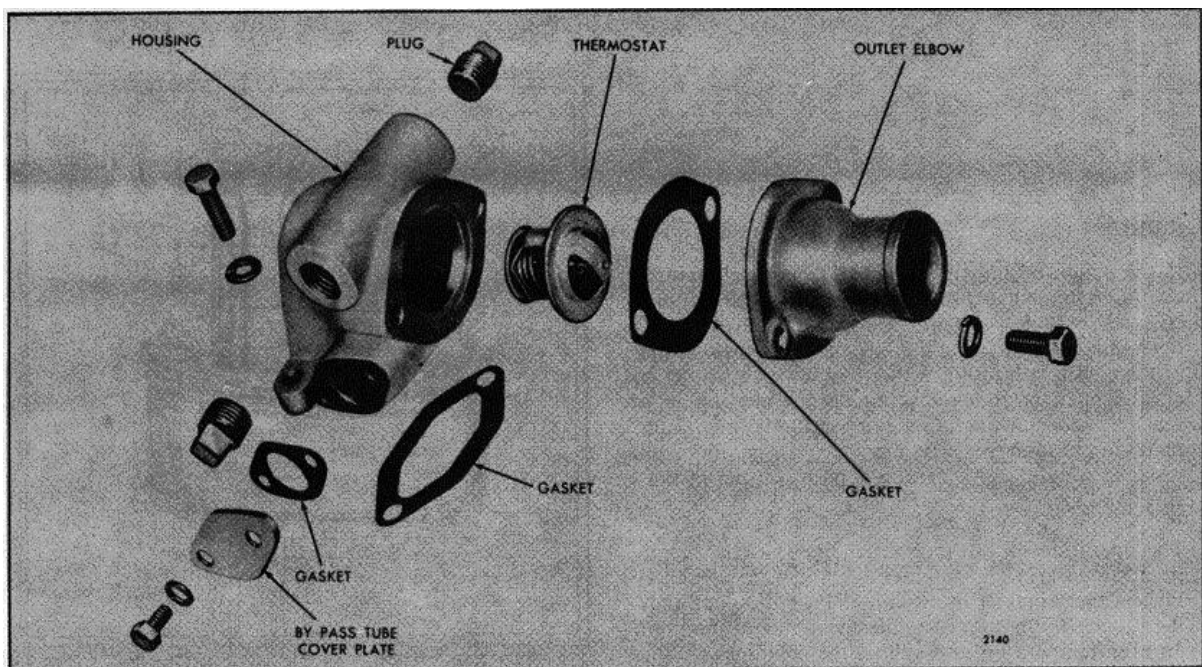

Fig. 2. Thermostat Housing Details and Relative Location of Parts (In-Line Engine)
3. Loosen the bolts and remove the water outlet elbow from the thermostat housing on the in-line engine (Fig. 2). Take out the thermostat.
Refer to Fig. 2. and install the thermostat(s) as follows: